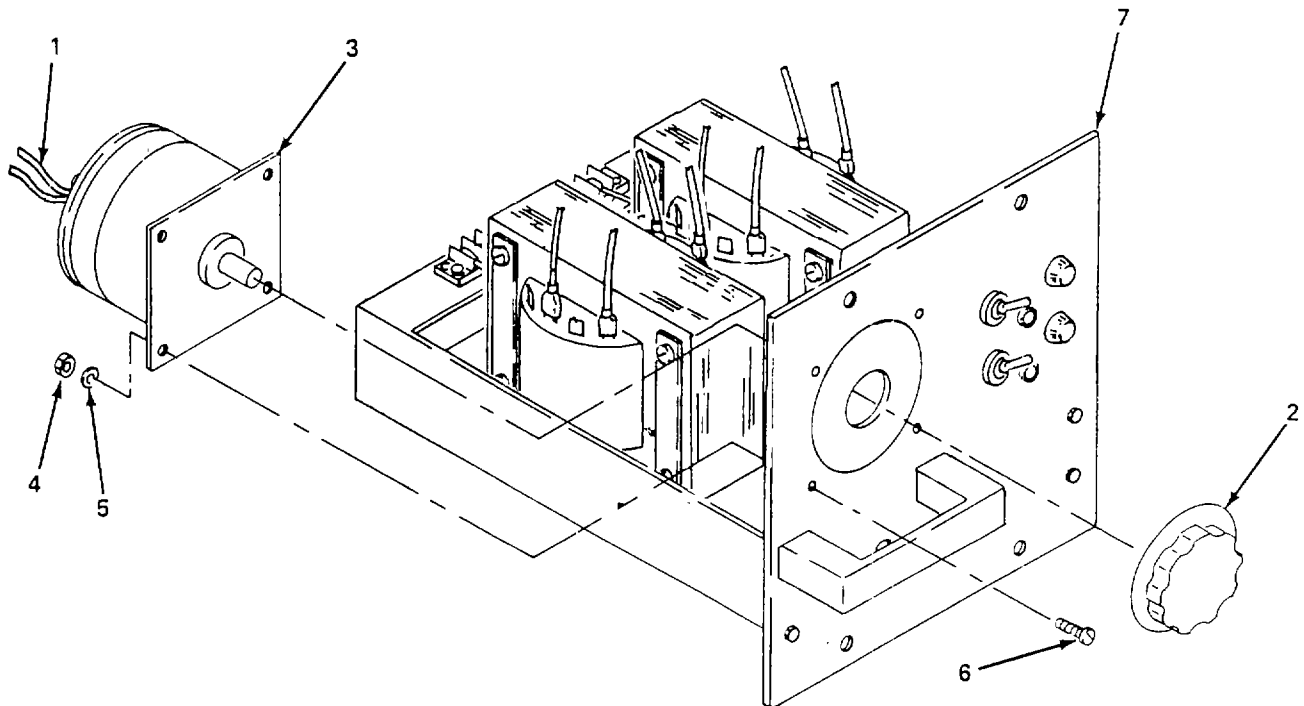

Figure 5-19. Double Light Power Supply (inner Lock) Variac Unit, Replace
(3) *Replace variac unit.* (figure 5-19)
- (a) Tag and disconnect electrical lead (1).
- (b) Remove knob (2) from variac unit (3).
- (c) Remove four nuts (4), washers (5) and screws (6) and remove variac unit (3).
- (d) Install variac unit (3) on cover (7) and secure with four screws (6), washers (5) and nuts (4).
- (e) Install knob (2) and connect electrical leads (1).